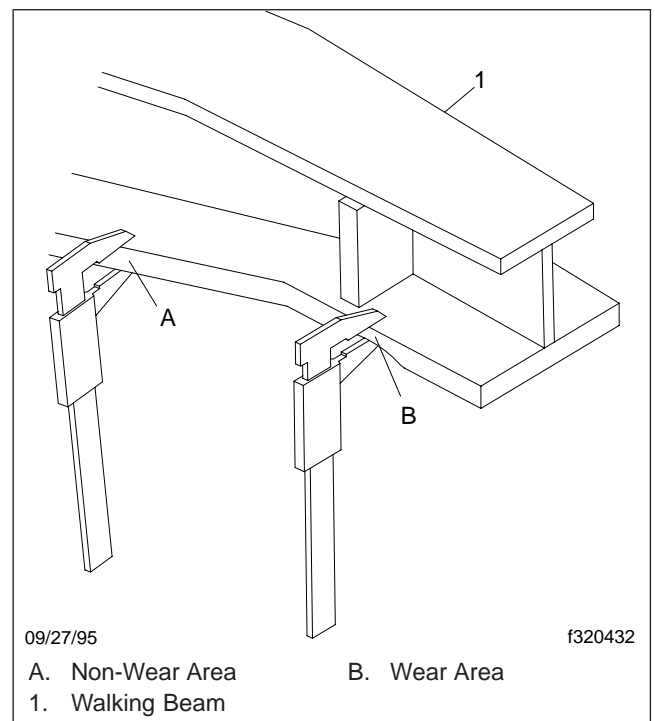

Fig. 13, Walking Beam End Wear Thickness
3. Manipulate the walking beam so that a micrometer, vernier, or dial caliper may be used to determine the wear area thickness on the bottom face. See **Fig. 13**. Measurements should be taken a minimum of 1/2 inch from the beam flange edges to eliminate any edge wear that may have occurred. Subtract the wear area thickness (**Fig. 13**, Ref. B) from the thickness at the non-wear area (**Fig. 13**, Ref. A) to determine the amount of wear.